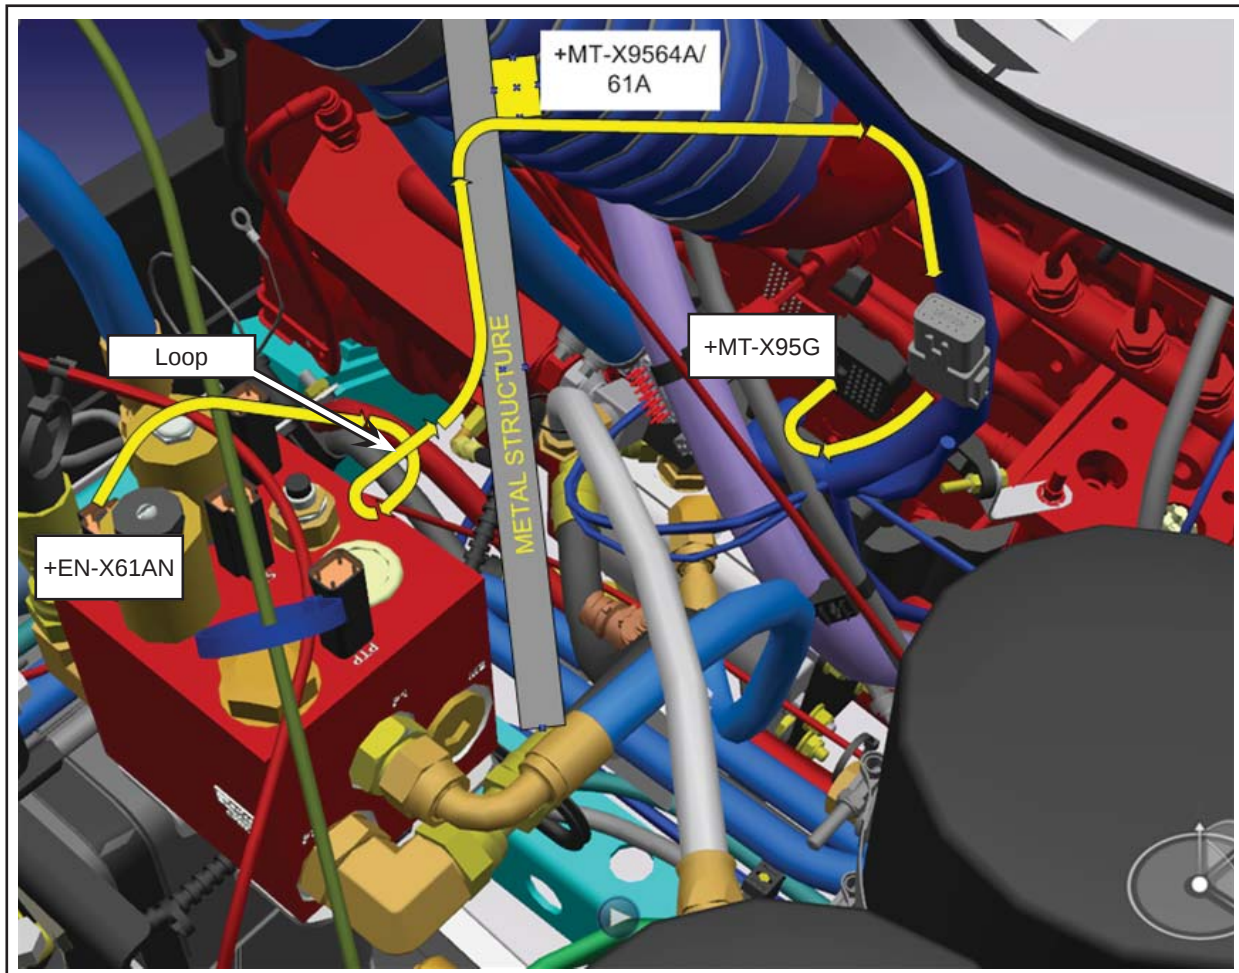

Figure 7 - Routing of the New N632000451 Wire Kit
- 1.12. Route the new N632000451 wire kit with a loop. Attach it to the metal structure, go under the +MT-X9564A/61A connector and follow the other vehicle wiring up to the +MT-SC95C connector. See Figure 7. Secure the wire kit with G5007996 cable ties.